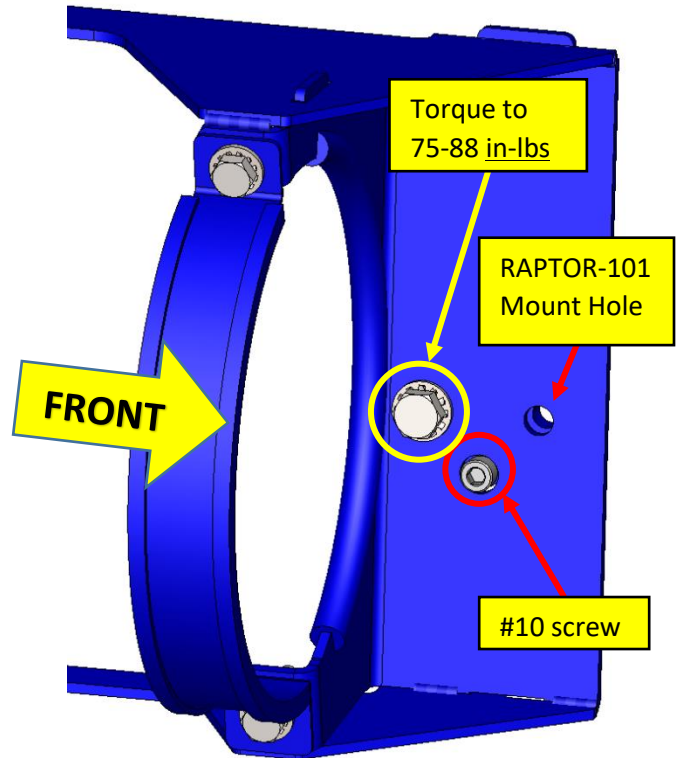

Figure 16 - RAPTOR-201 Hardware Location (right side)
10.3.2. Install hardware #3, #7, & #11 into left hole on right side of RAPTOR-201, as circled below. Ensure right hole is lined up and tighten firmly, as shown in Figure 16 below.
10.3.3. Verify RAPTOR-101 hole is lined up, then remove #10 screw as shown circled in Figure 16 above. If necessary, thread another bolt into RAPTOR-101 hole to ensure correct alignment.